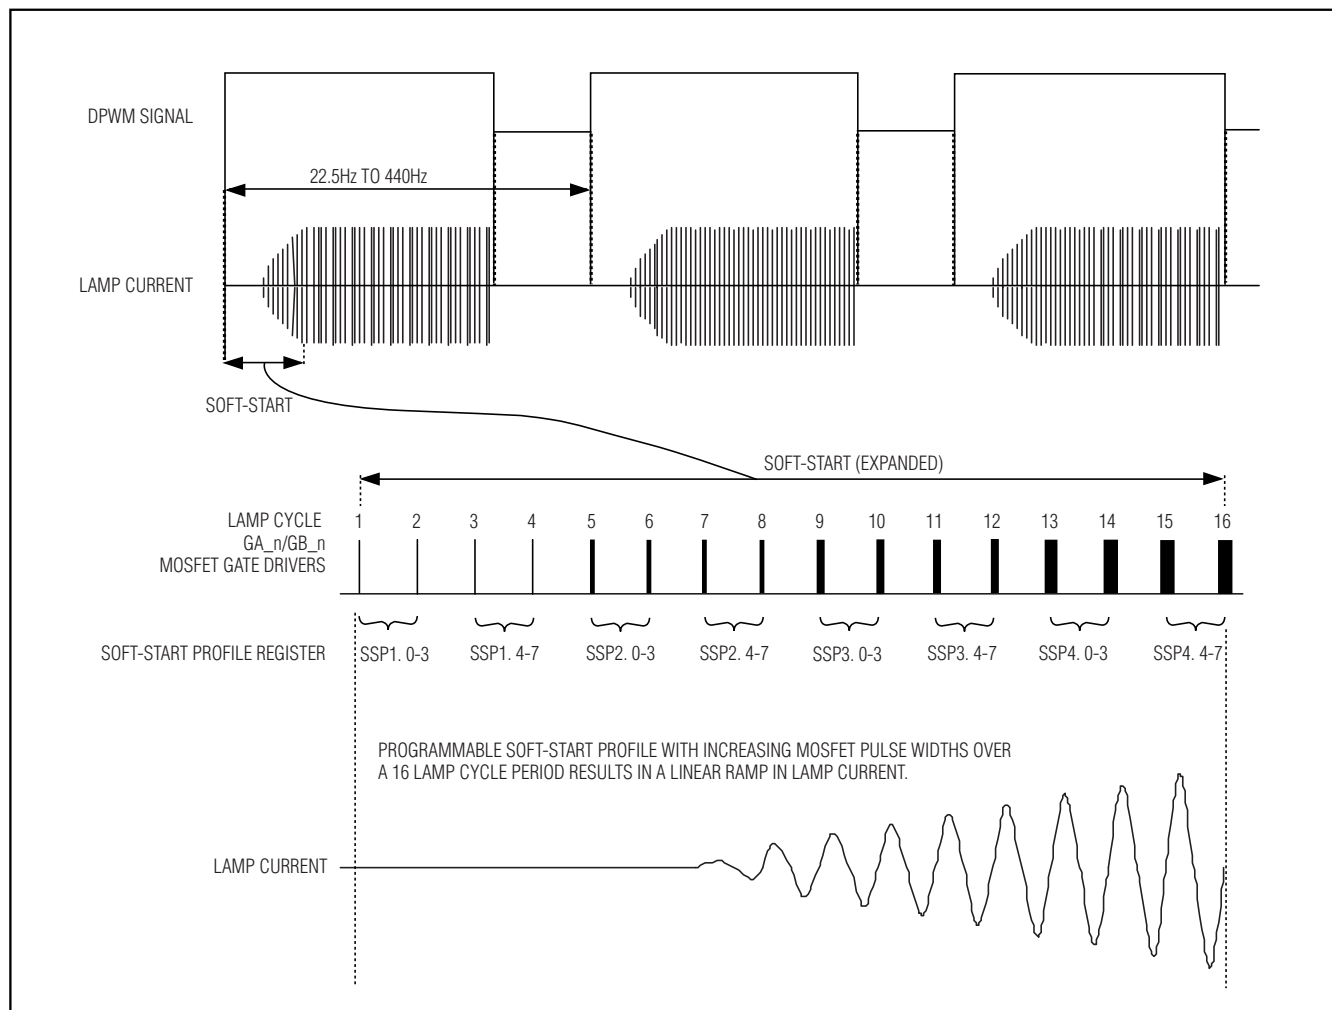

Figure 6. Digital PWM Dimming and Soft-Start
lamp frequency (40kHz to 80kHz) as shown in Figure 6. This part of the cycle is called the “burst” period because of the lamp frequency burst that occurs during this time. During the low period of the DPWM cycle, the controller disables the MOSFET gate drivers so the lamps are not driven. This causes the current to stop flowing in the lamps, but the time is short enough to keep the lamps from de-ionizing. Dimming is increased/decreased by adjusting (i.e., modulating) the duty cycle of the DPWM signal.
At the beginning of each lamp burst, the DS3984 provides a soft-start that slowly increases the MOSFET gate-driver duty cycle (see Figure 6). This minimizes the possibility of audible transformer noise that could result from current surges in the transformer primary. The soft-start length is fixed at 16 lamp cycles, but the soft-start ramp profile is programmable through the four Soft-Start Profile registers (SSP1/2/3/4) and can be
**Soft-Start Profile (SSPx) Registers**—Each of the four soft-start profile registers (SSP1–4) contains two 4-bit codes that determine the MOSFET's duty cycle (MDC) for two clock cycles each (see Figure 6) at the beginning of each DPWM burst. Table 2 shows the duty cycles that correspond to each code. Selecting the Most Recent Value instructs the DS3984 to use the MOSFET duty cycle that was used for the last lamp cycle of the previous burst.